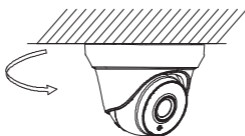

Figure 2-5 3-axis Adjustment
6. Adjust the camera according to Figure 2-5 to get an optimum angle.